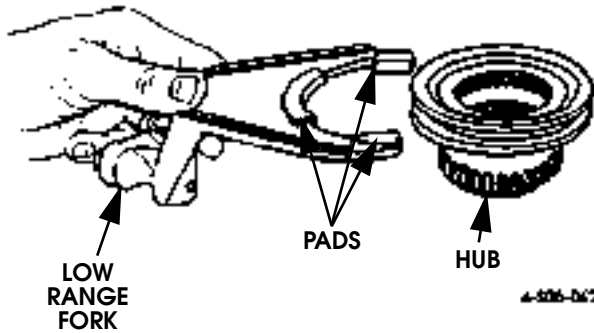

Figure 5-138: Assembling Low Range Fork and Hub
6. Assemble low range fork and hub. Replace pads on fork if worn or damaged (Figure 5-138).